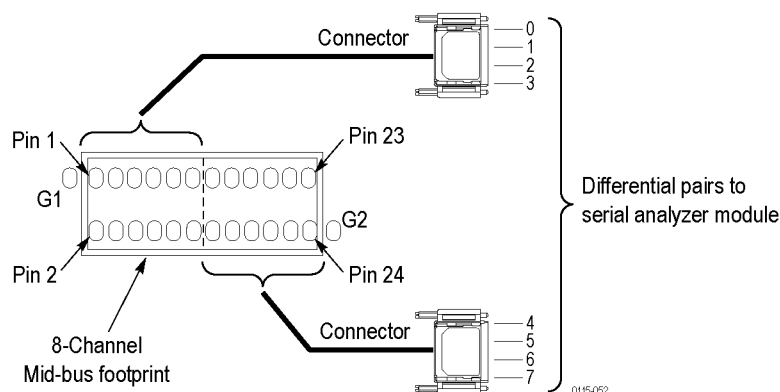
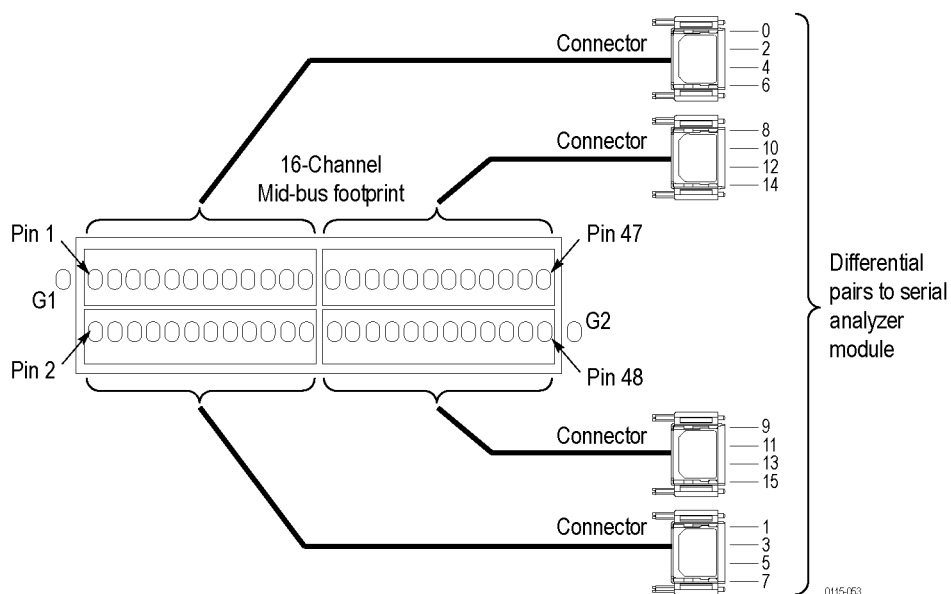

Figure 43: 8-Channel midbus footprint connection module connector
Figure 44: 16-Channel midbus footprint connection module connector
- To ensure that all lanes from one direction of the link are connected to the top two connectors on a TLA7S16 or to the top connector of a TLA7S08, refer to the connector illustrations. (See Figure 43 on page 41.) (See Figure 44 on page 42.) Ensure that all lanes going to the bottom two connectors of the TLA7S16 (or the bottom connector of the TLA7S08) are from the same direction.